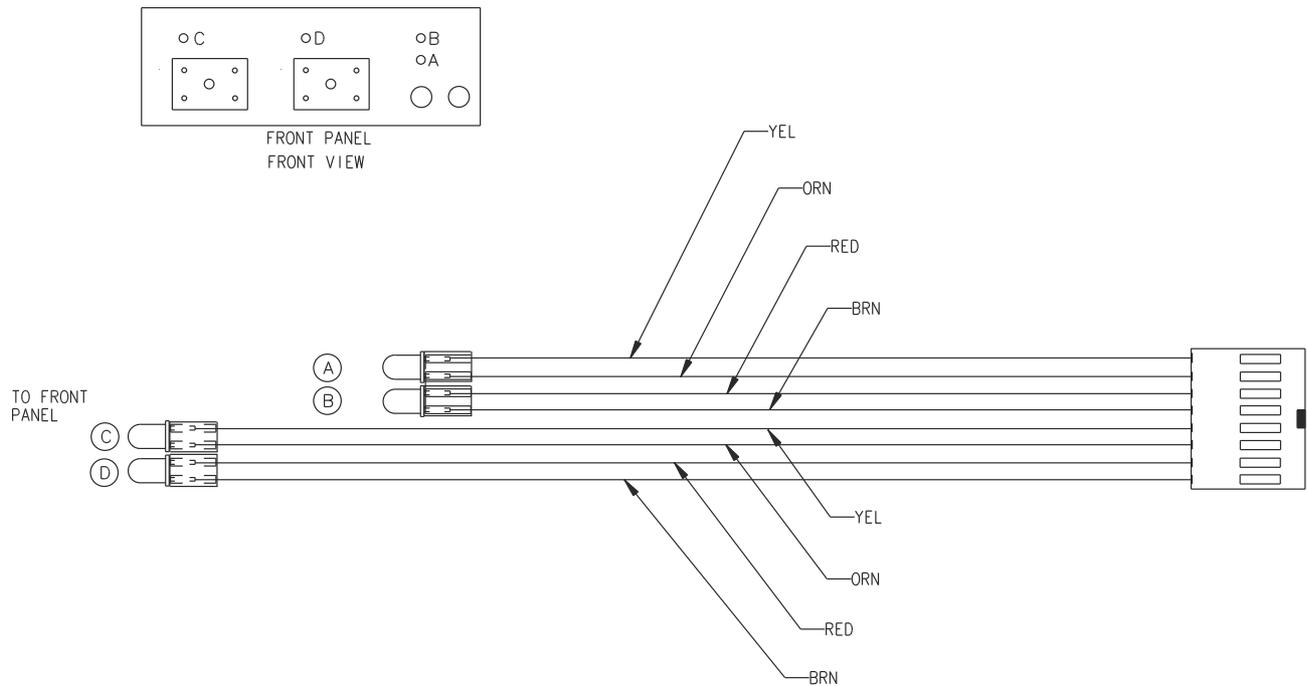

Figure 6-9. Front Panel LED Cable Assembly
5. To replace the front panel LED cable assembly, reverse the order of the removal procedure. Ensure that the respective LED is inserted to its respective location on the front panel as shown in Figure 6-9, “Front Panel LED Cable Assembly” on page 6-15.